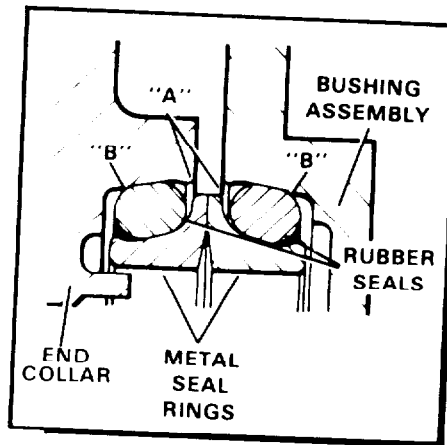

Figure 9E-8, Crawler Roller (13Q18D1)
2. Remove locks (01) from each end of shaft (02) and remove key (03).
3. Pull end collars (04) off of each end of shaft (02).
4. Remove bushing assembly (05) from each end of roller (09). Press shaft (02) out of the roller. Then remove bushings (08) by pressing them out of bushing assemblies (05); see insert view in Figure 9E-8.
5. Remove an O-ring (10) from each end of shaft (02). Remove O-ring (11) from the groove in each bushing assembly (05).
6. Remove one half of duo cone seal (12) from each end collar (04) and another half of duo cone seal (12) from each bushing assembly (05).
8. To replace bushing (08) in the bushing assembly as shown in the insert of Figure 9E-8, proceed as follows:
- A. Remove pins (15) from the bushing assembly and discard.
- F. Install two new pins (15) into these holes to a depth of 0.030 inch below the outside surface of bushing (08). Clean the bushing assembly thoroughly of any metal filings or chips.
1. Install seal (11) in grooves on the bushing assemblies. Apply a light coating of oil to the seals, the groove of the bushing assembly, and the inside of the roller.
6. Install duo cone seals (12) as follows (see insert view in Figure 9E-8):
- D. Install one half of a duo cone seal in each end collar (04) and in the end of each bushing assembly (05). Press the rubber seal into the seal seat making sure that it is straight in the bore and inside retaining lips ("A"). *Do not use a screwdriver or any sharp instrument to seat the rubber rings.*
7. Install a new O-ring (10) in the groove on each end of shaft (02). Install end collar (04), with the keyway, over the keyway end of shaft (02). Install key (03) and lock (01). Install the other end collar (04) over the other end of shaft (02). Align the mounting holes and install lock (01).
8. Fill the crawler roller with gear oil (see Lube Chart) through the hole in shaft (02). Install a new O-ring (14) on plug (13) and torque the plug to 125 ft-lbs.